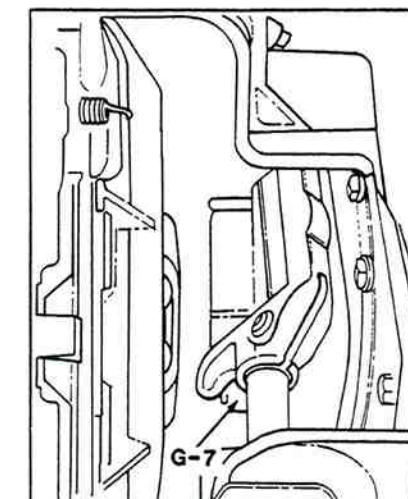

Figure 5-35. Swing Yoke Fingers Down.
7. As soon as the fingers of the clutch release yoke pass the thrust pads of release bearing assembly, turn the release shaft to swing the yoke fingers down in front of release pads (G-7) (figure 5-35).
IMPORTANT: Interference with release yoke fingers by the clutch flywheel ring will prevent assembly of transmission or cause binding of release shaft if it is not rotated as shown in figure 5-35.